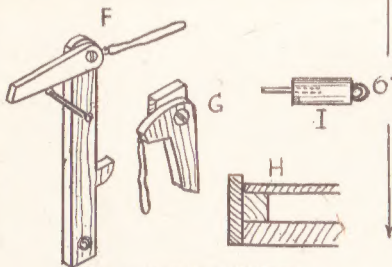

Fig. 2—Details of fittings
To the edges of this, some  $\frac{1}{8}$  in. thick strips of wood are fixed to make a finishing rim, as in detail Fig. 2 (H). These are  $1\frac{1}{4}$  ins. wide, so will rise above the cover board, referred to later on, just  $\frac{1}{8}$  in.
An elastic band is hooked to the pawl and dropped over a screw, driven in the lever, where shown. On the right edge of the lever, near the top, fix a second hook, and to this slip on another elastic band. The whole will then present the appearance seen at (F) in Fig. 2.
Cut the detent (D) from  $\frac{1}{8}$  in. wood and fix a small wire hook where shown. This part should be pivoted with a countersunk screw to a small square of  $\frac{1}{2}$  in. fretwood, as in detail (G) Fig. 2, the square being glued to the backboard so that the detent falls into the teeth of the disc at about the position shown in Fig. 1. Hook the elastic band, attached to the detent as in the detail, over a screw head, driven in the backboard.